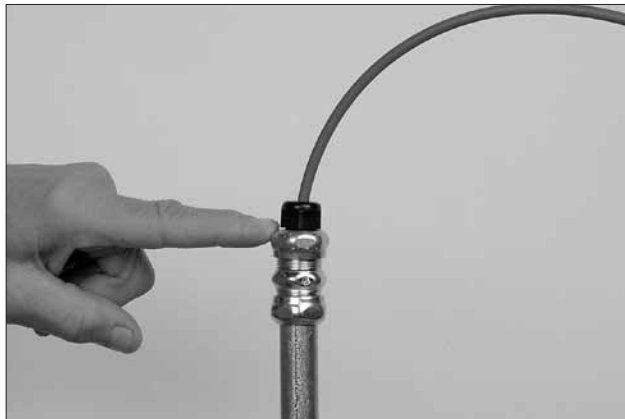

FIGURE 4-67
11. Tighten nut on strain relief on top of conduit riser. See Figure 4-67.